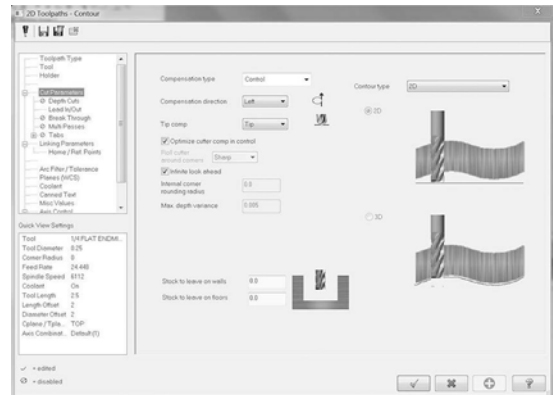

Figure 5-46 Contour—Cut Parameters
- Complete the settings within the 2D Toolpaths—Contour dialog, as displayed in Figures 5-46 and 5-47.